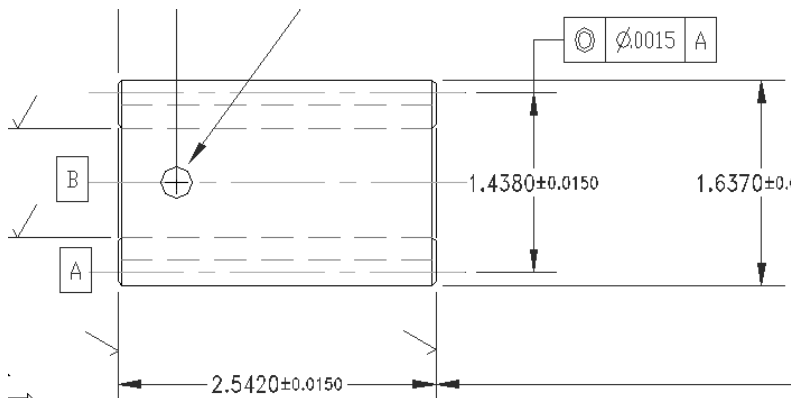

**Figure 15-29:** Symmetrical tolerances.
- ♦ **Symmetrical** tolerances have the same upper and lower amounts and are shown with a plus/minus sign, as shown in Figure 15-29. The Upper Value text box is active so that you can type in the tolerance amount.